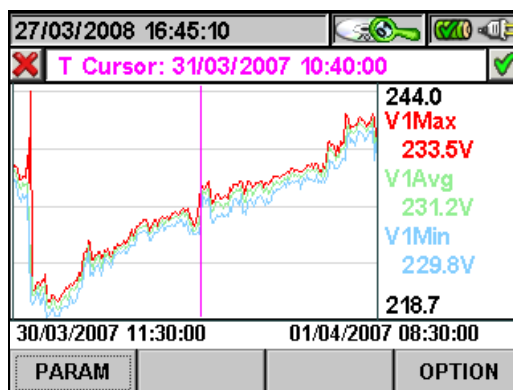

Fig. 92: Recording graph
- The **ENTER** key (or the smart icon  on the display) confirms the selection previously made and displays the graph of the selected parameter (Fig. 92)